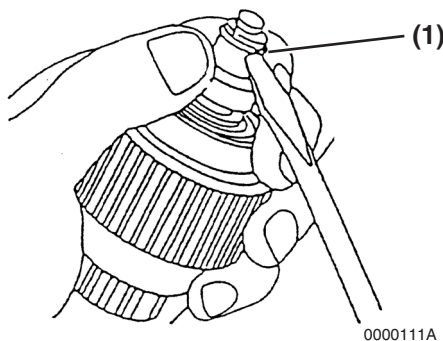

Figure 11-10
- Using a flat-blade screwdriver, remove the retaining ring (**Figure 11-10, (1)**) from the shaft of the pinion.